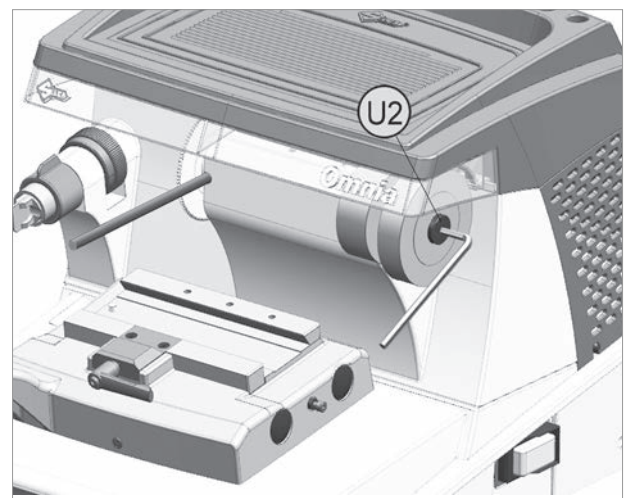

Fig. 62
- 3) Use the Allen key to loosen the screw (U2) and remove the brush (Fig. 62).